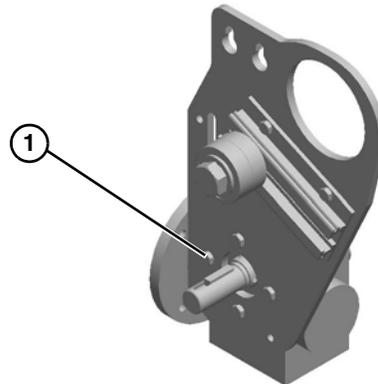

Figure 33
5. Remove four gear reducer mounting bolts (Figure 33, item 1). Remove gear reducer.